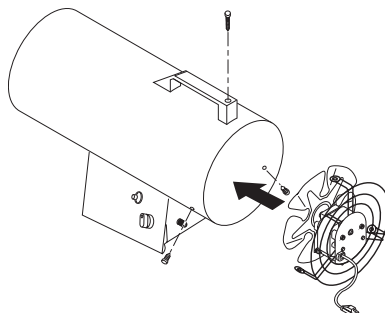

Figure 13 - Replacing Motor and Fan Guard into Heater
11. Place motor and fan guard into rear of heater shell. Make sure power cord is properly located (see Figure 13).
8. Place motor and fan guard into rear of heater shell. Make sure power cord is properly located (see Figure 13, page 7).